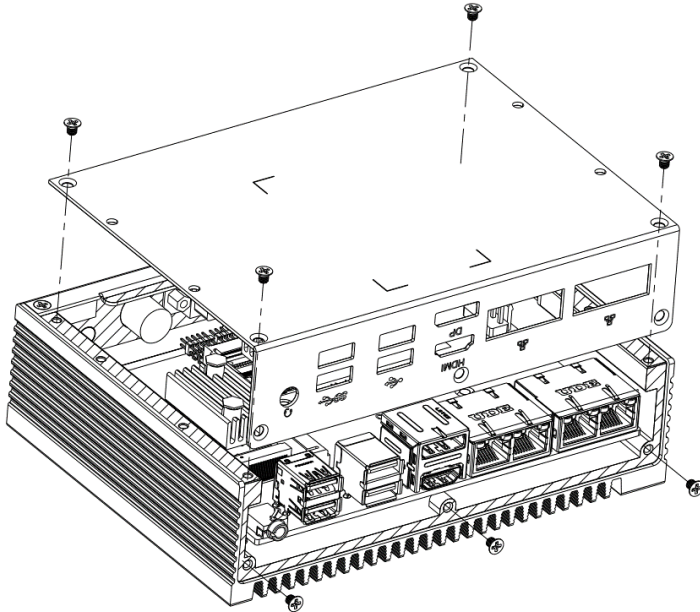

Figure 3.1-1
1. Remove total 7 screws from the bottom and back, as shown in below Figure 3.1-1.